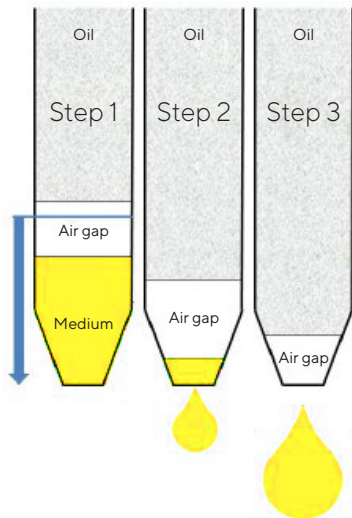

Figure 2: Impact of the airgap during cell deposition
- **Air gap deposition into the target well** – ensures that the total contents are deposited into a target well and can be varied depending on research application (Fig. 2)
Many plate surfaces can be extremely uneven, making fixed deposition heights problematic. An automatic sensor on each of the picking modules can be used to interactively set the deposition height on a well-by-well basis (Fig. 2), so that the capillary tip remains at exactly the same height above the plate base for each deposit.
Following sample acquisition, deposition of both the medium and airgap from the glass capillary (Fig. 2) results in a completely empty capillary, with no requirement for any further sterilization.